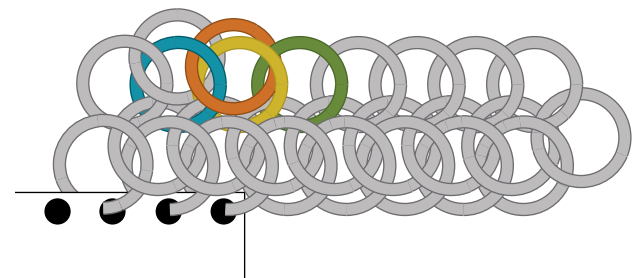

FIG. 9
9. Repeat Step 8 along the length of the chain, moving over 1 base-row jump ring to the right. (FIGS. 9 AND 10).